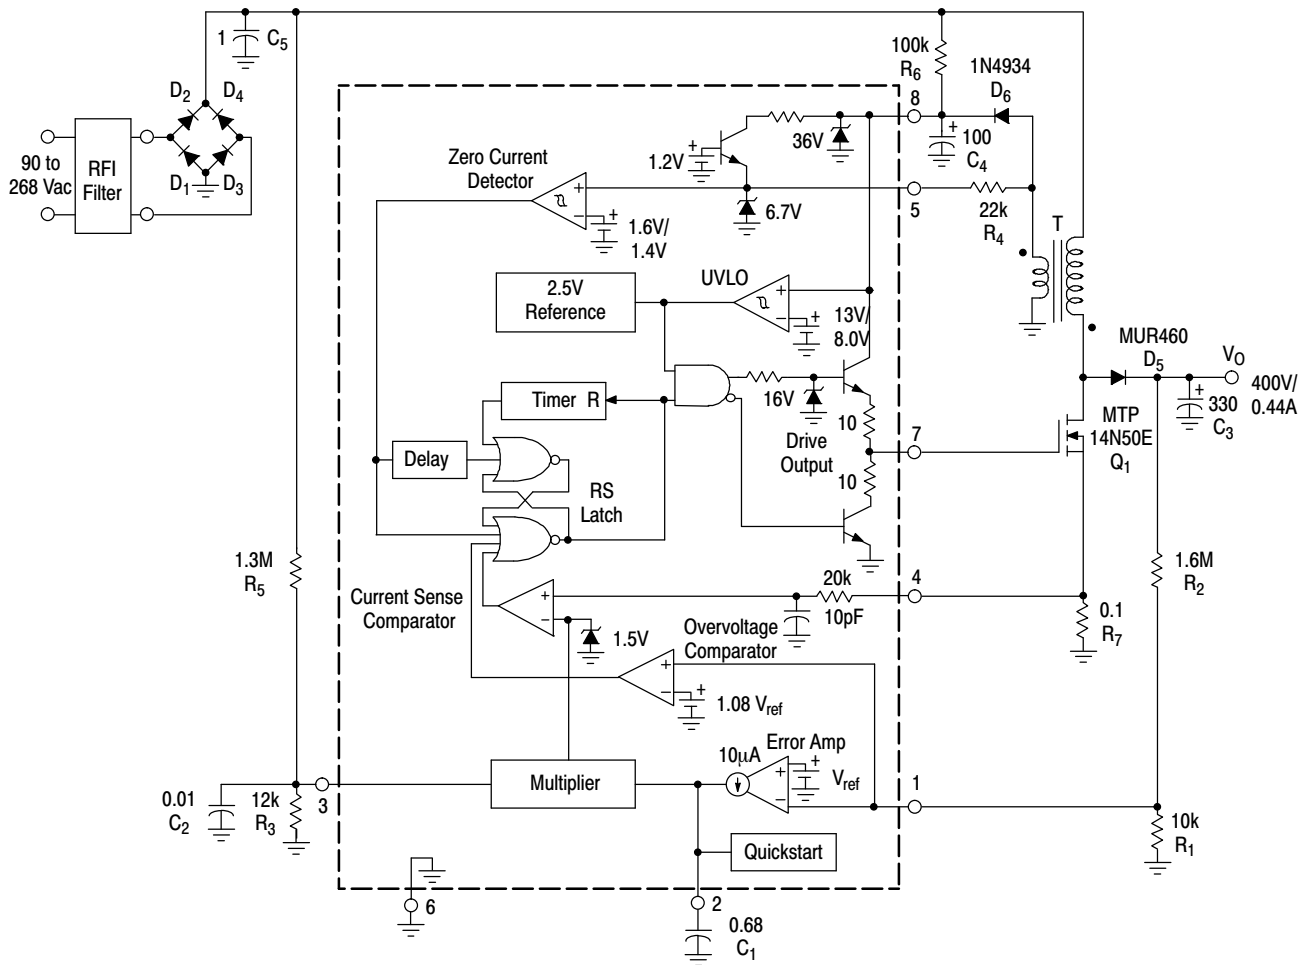
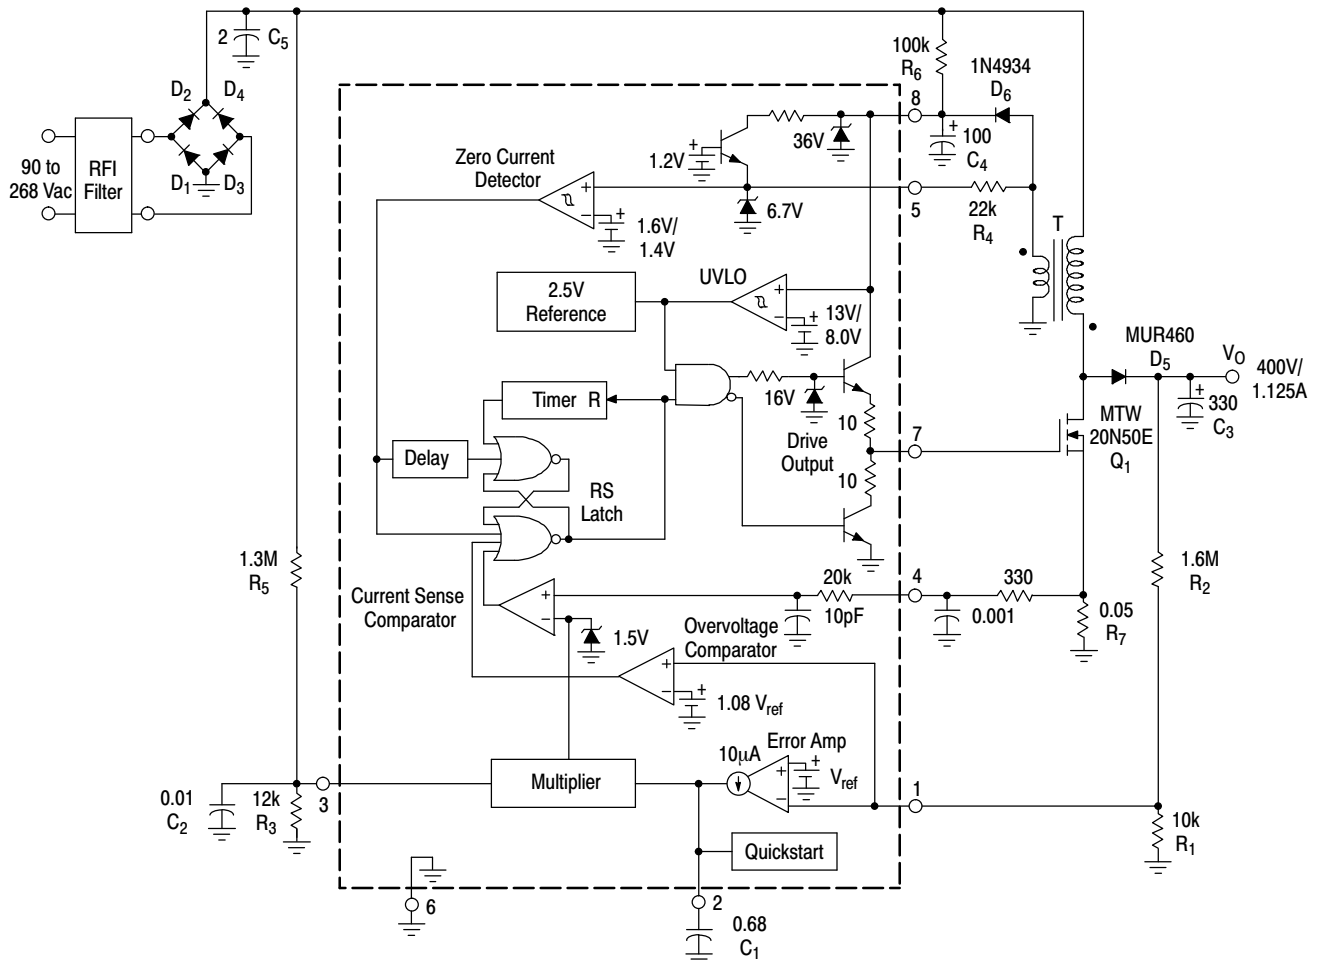
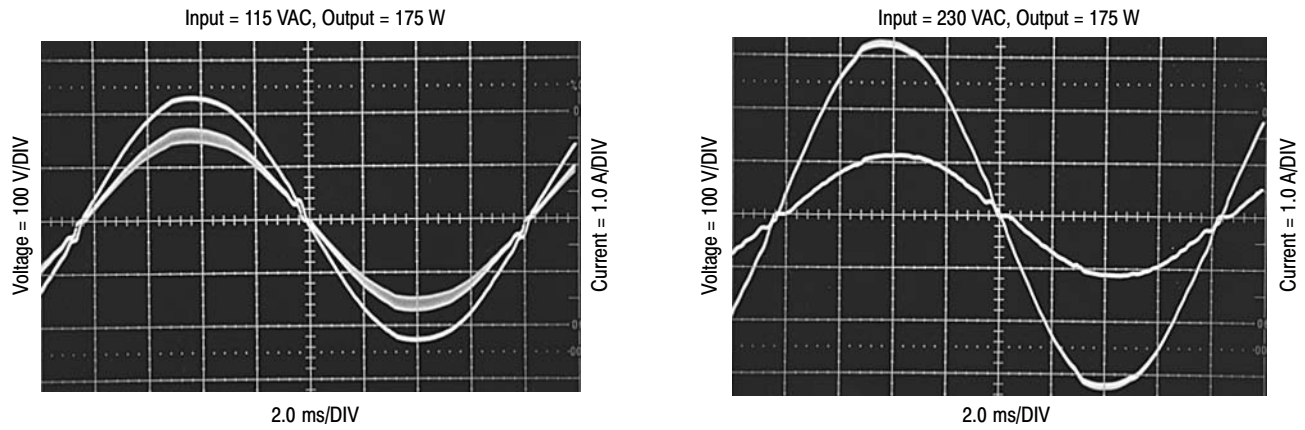
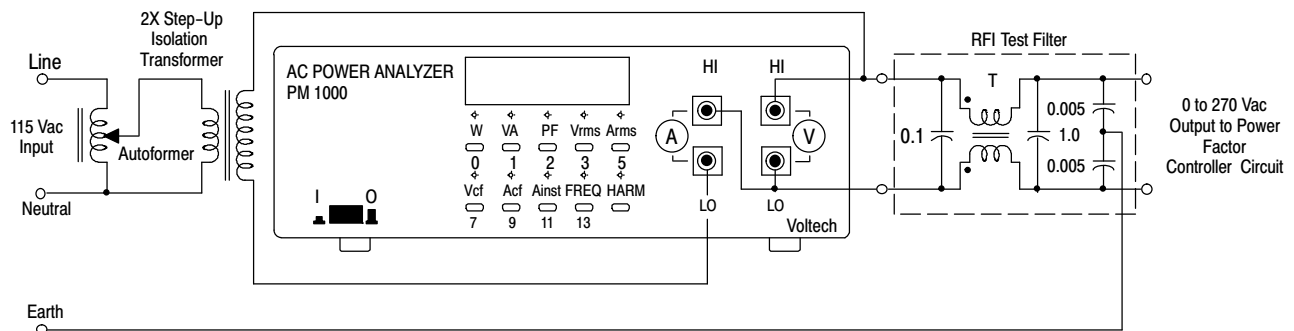

Figure 21. 175 W Universal Input Power Factor Controller
Figure 22. 450 W Universal Input Power Factor Controller
Figure 23. Power Factor Corrected Input Waveforms (Figure 21 Circuit)
Figure 25. Power Factor Test Set-Up
An internal RC filter has been included to attenuate any high frequency noise that may be present on the current waveform. This filter helps reduce the ac line current distortion especially near the zero crossings. With the component values shown in Figure 21, the Current Sense Comparator threshold, at the peak of the haversine varies from 1.1 V at 90 Vac to 100 mV at 268 Vac. The Current Sense Input to Drive Output turn-off propagation delay is typically less than 200 ns.
0.998 at nominal line. Figures 21 and 22 are universal input preconverter examples that operate over a continuous input voltage range of 90 Vac to 268 Vac. Figure 21 provides an output power of 175 W (400 V at 440 mA) while Figure 22 provides 450 W (400 V at 1.125 A). Both circuits have an observed worst-case power factor of approximately 0.989. The input current and voltage waveforms of Figure 21 are shown in Figure 23 with operation at 115 Vac and 230 Vac. The data for each of the applications was generated with the test set-up shown in Figure 25.
This data was taken with the test set-up shown in Figure 25.
An RFI filter is required for best performance when connecting the preconverter directly to the ac line. The filter attenuates the level of high frequency switching that appears on the ac line current waveform. Figures 20 and 21 work well with commercially available two stage filters such as the Delta Electronics 03DPCG5. Shown above is a single stage test filter that can easily be constructed with four ac line rated capacitors and a common-mode transformer. Coilcraft CMT3-28-2 was used to test Figures 20 and 21. It has a minimum inductance of 28 mH and a maximum current rating of 2.0 A. Coilcraft CMT4-17-9 was used to test Figure 22. It has a minimum inductance of 17 mH and a maximum current rating of 9.0 A. Circuit conversion efficiency η (%) was calculated without the power loss of the RFI filter.